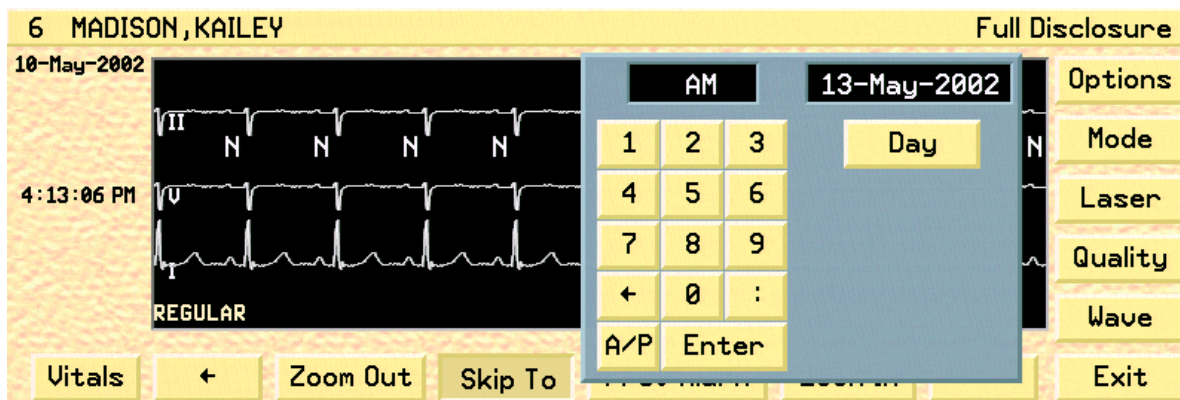

Fig. 73. Skip To Popup
1. Press **Skip To** on the Disclosure screen to display the Skip To popup (fig. 73).